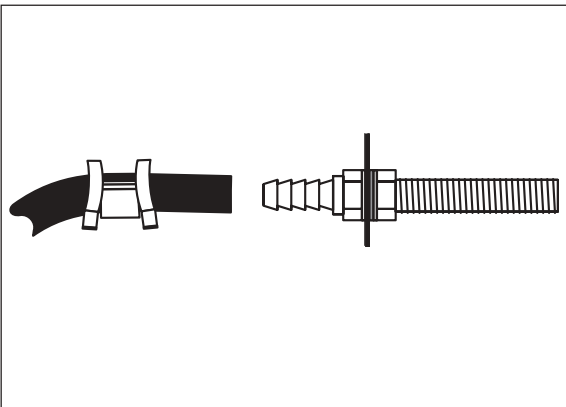

Figure 6
10. Slide air line clamp over the air line. Push air line onto fitting covering all barbs, with pliers slide the air line clamp forward until it fully covers the barbed section (Figure 6).
- Slide a clamp onto the air line and push the air line over the fitting, covering all the barbs. With pliers slide the air line clamp forward until it fully covers the barbed section (Figure 6).